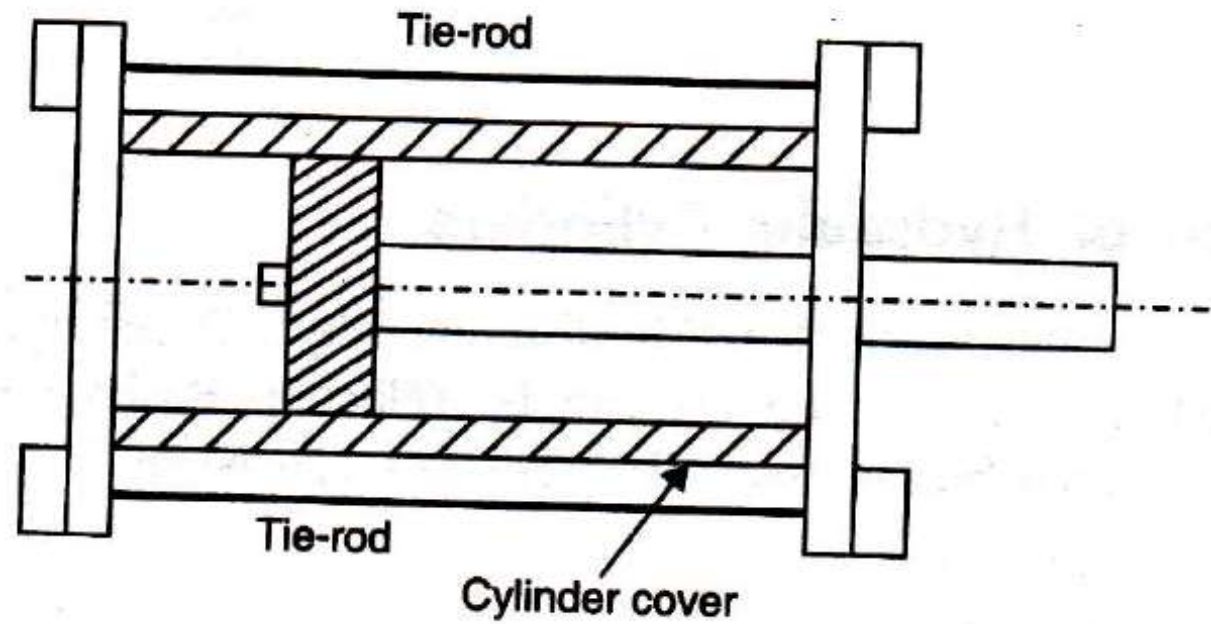

Figure 4.5 Tie-rod type where both the cap and rod ends are tied together by the tie-rods and are bolted.
- (iii) Tie-rod design (Figure 4.5)